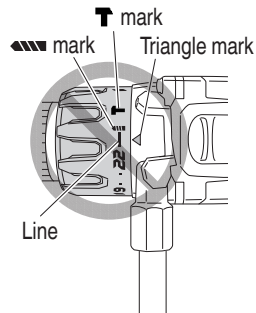

Fig. 19
- Do not use with the clutch dial number at “22” and the line at the middle of the drill mark “”. Doing so may cause damage. (See Fig. 19)